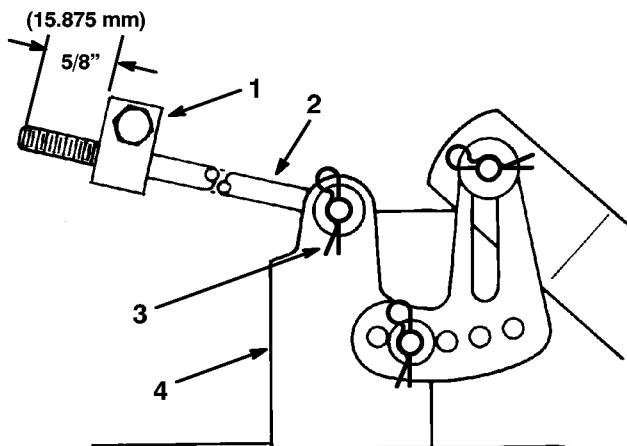

Figure 51
5. Measure the length of the rod extending out the front of the adjusting block on the sides of the chassis (Fig. 51). If the rod length is not $5/8"$ (15.875 mm), remove the hair pin cotter and washer from the end of the rod (Fig. 51), and turn the rod until the $5/8"$ (15.875 mm) dimension is obtained. Then install the end of the rod into the hole in the mower mount and secure in place with washer and hair pin cotter. Repeat this procedure on the opposite side of the mower.